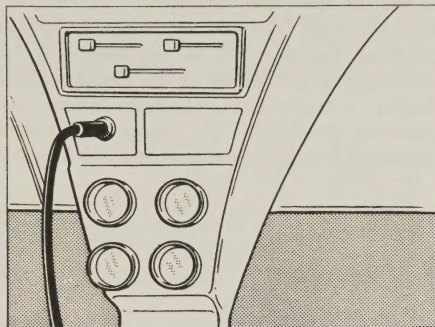

Fig. 3-3 Use of Cigarette Lighter
2. An alternative way of obtaining power is to use the cigarette lighter. A plug, as shown in Fig. 3-3 is available at auto accessory shops or electronics parts stores.